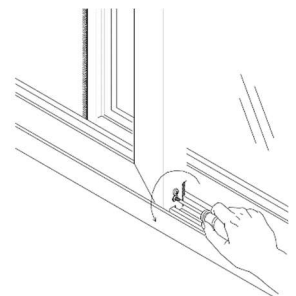

Figure 4
2.1 Remove slide covers from interlock and using a screwdriver remove the lockset from the panel. Lower the panel slightly by adjusting the wheels for ease of turning (Figure 4). Slide the panel to the center of the frame; lift the panel to pull the bottom part from the sill, and then pull down to release the panel from the frame (Figure 5).